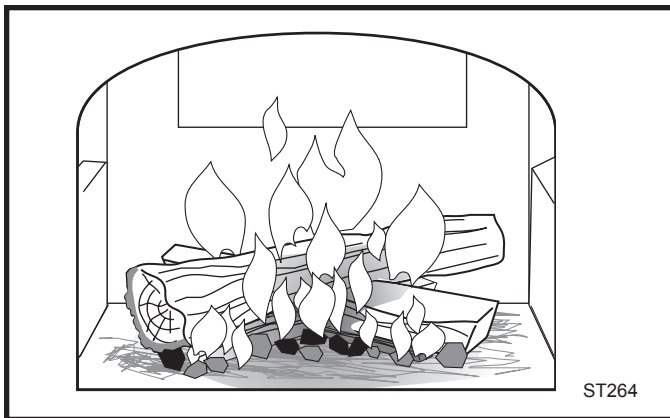

Fig. 37 Add larger pieces of wood as the fire begins to burn well.
4. If your Encore has been broken-in previously using Steps 1-3, continue to build the fire gradually. Add larger wood with a diameter of 3-4" (75-100 mm). Continue adding split logs of this size to the briskly-burning fire until there is a glowing ember bed 2-3" (51-75 mm) deep. (Fig. 37) A good ember bed is necessary for proper functioning of the non-catalytic system and may take an hour or more to establish.